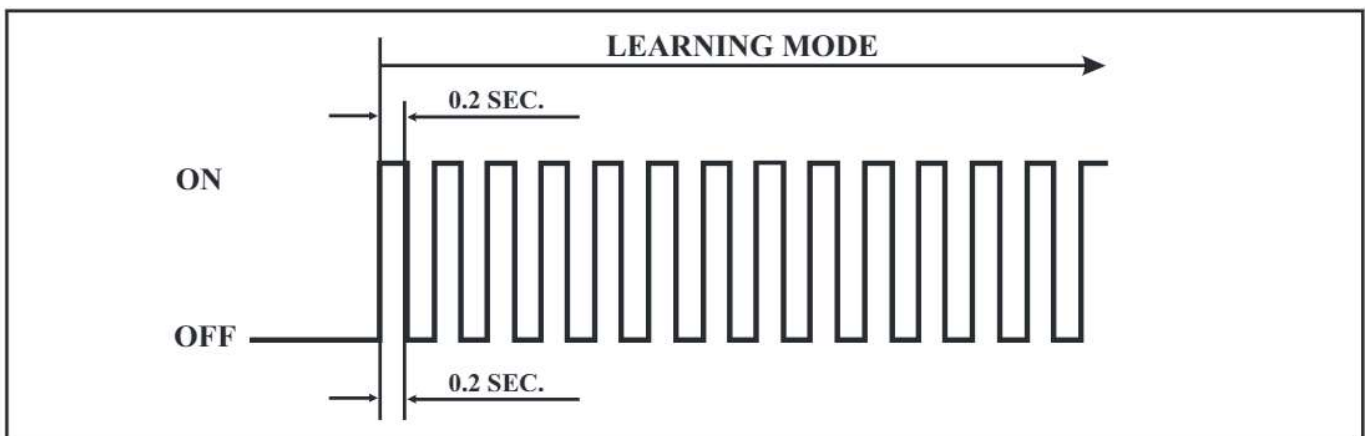

Figure 38
6. Confirm that the Overtemperature Lamp is flashing the pattern seen below in Figure 38.